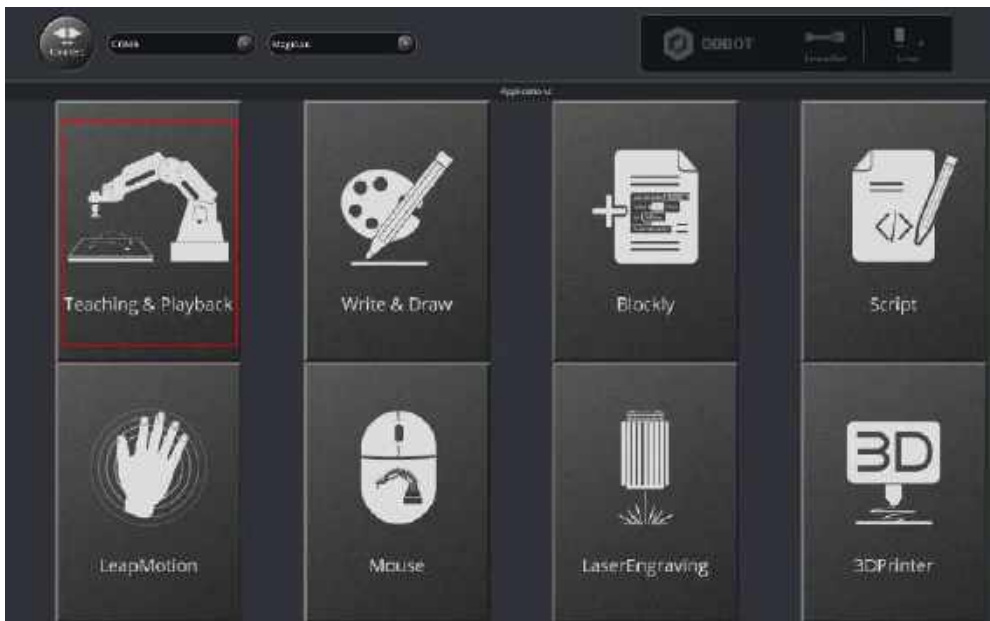

Figure 2.16 Click Teaching & Playback
1. Click **Teaching & Playback**, as shown in Figure 2.16.